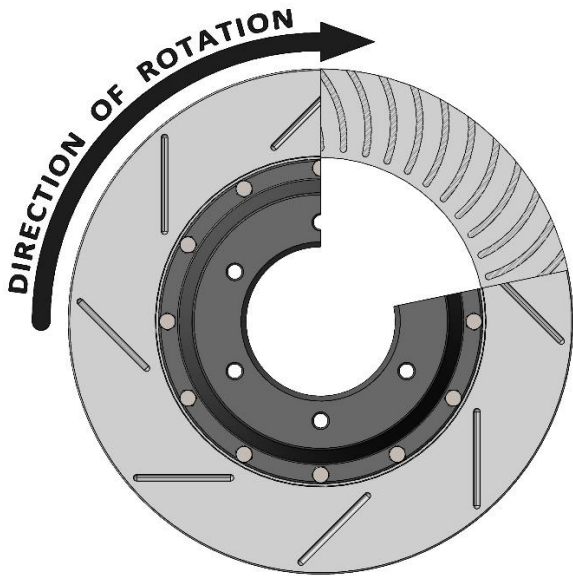
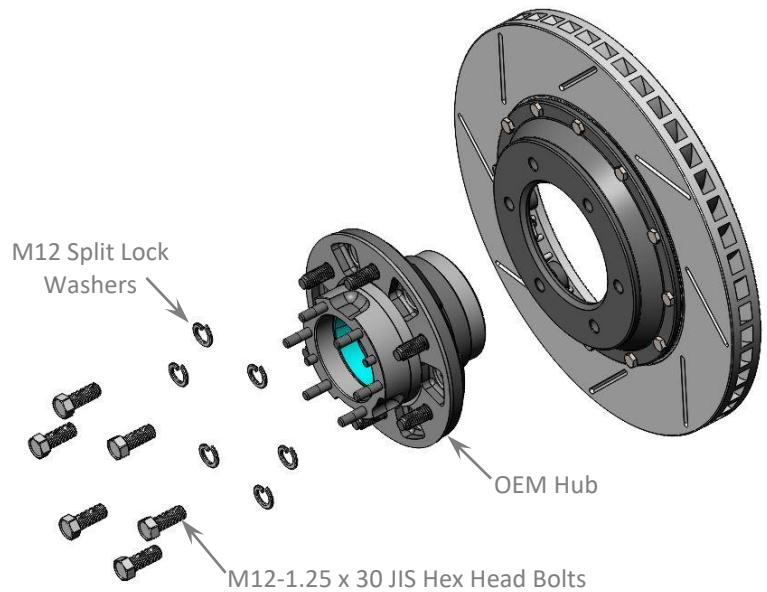

Figure 2a – Proper Rotor Direction (RH Shown)
Figure 2b – Proper Rotor Installation (RH Shown)
- Next install the provided 14" Rotor Assembly onto the OEM hub. Use the provided M12-1.25 x 30 JIS Hex Head Bolts and M12 Split Lock Washers when installing to hold the rotor assembly tight against the hub. The rotors are LH and RH side specific, when installing be sure to follow the direction of rotation as indicated below in Figure 2a. Figure 2b and 2c below shows the proper rotor installation. **Torque the M12-1.25 x 30 JIS Hex Head Bolts to 101Nm (75 ft/lbs)**